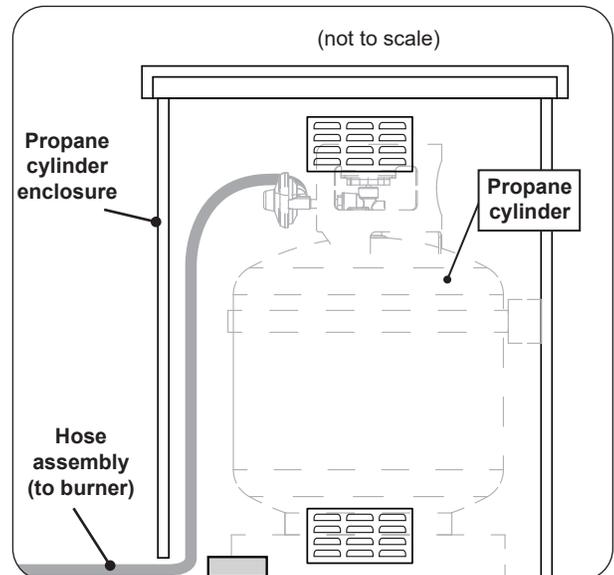

Fig. 37-3 L.P. Cylinder placement
3. The propane cylinder (not included) is to be located inside the separate propane cylinder enclosure (see Fig. 37-3).